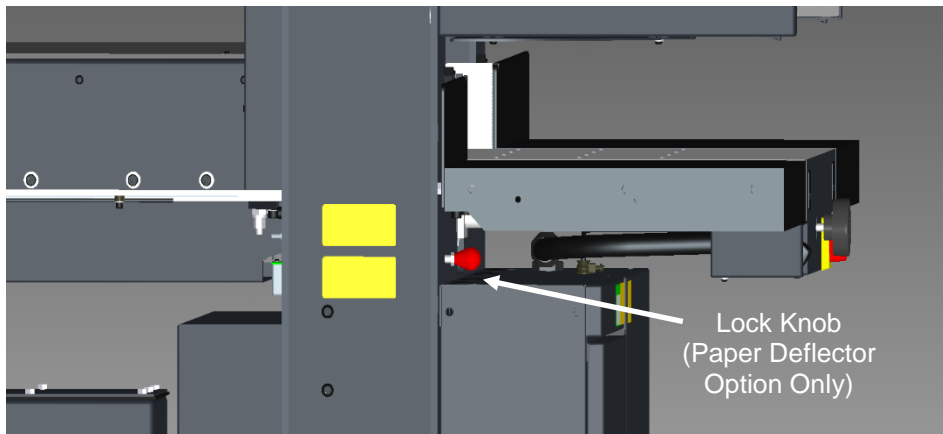
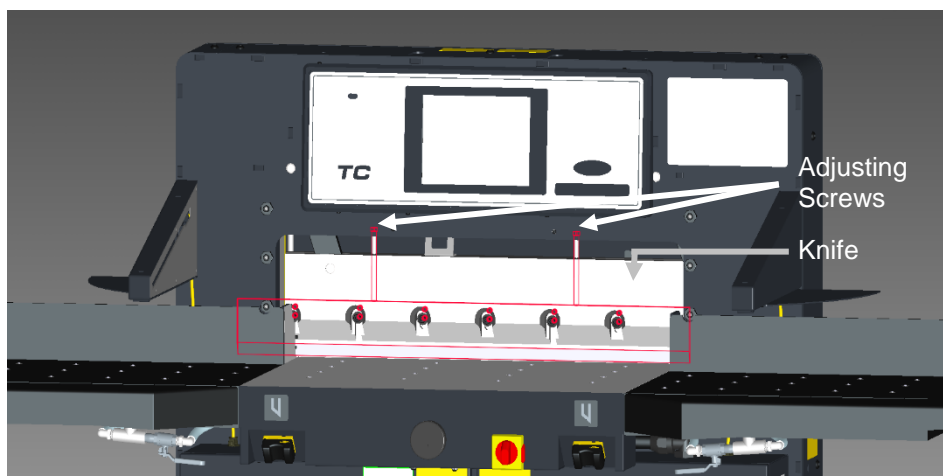

Figure 10 – Paper Deflector Locking Knob
Figure 11 – Knife Adjusting Screws
3. If equipped with the paper deflector option, lock it down by screwing the lock knob all the way in (Figure 10).
4. Back off the knife adjusting screws on the top of the knife bar, (Figure 11), as far as they will go (counter-clockwise). A new knife will cut deeper than a knife that has been ground several times. If the adjusters are not backed off, damage can result to the new knife and/or the cutting stick.
2. Check to make sure the paper deflector is locked down (Figure 10, page 19). Also check that the knife adjusting screws have been backed out, (Figure 11, page 19).
14. Turn the knife adjusters down (Figure 11, page 19) a little at a time, until the blade cuts through the paper evenly over the entire length of the stick. Be sure the blade is parallel to